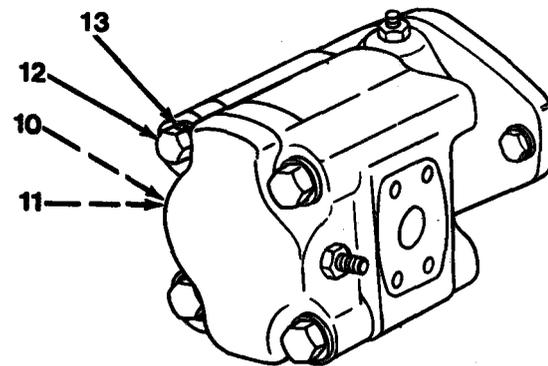

Figure 16-8
13. Install shaft end cover (14, Figure 16-8) as matchmarked.